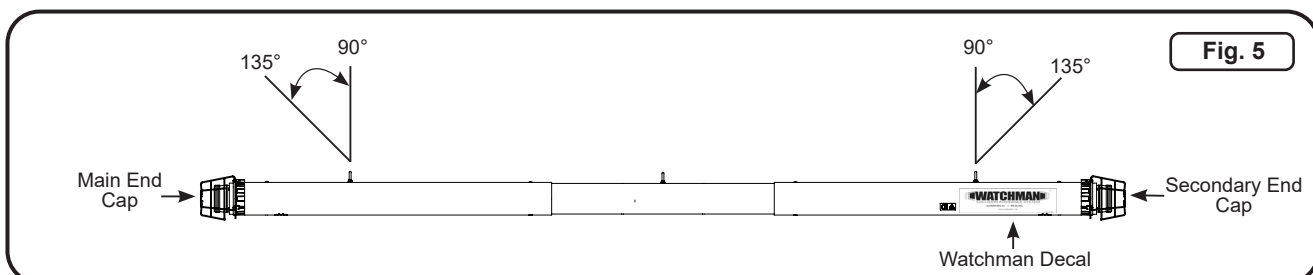

Fig. 5
- Ensure the suspension cable angles are between 90° and 135° [Figure 5].
1. Locate the AC power cord at the Main side end cap on the opposite end of the Watchman decal [Figure 5].